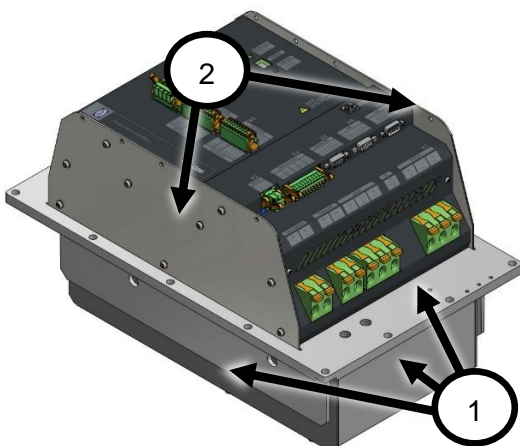

Figure 1 Hot surface areas
Do not touch until the surface (see pos. 1 in Figure 1 on page 7) is cooled down.
Do not touch until the surface (see pos. 2 in Figure 1 on page 7) is cooled down.